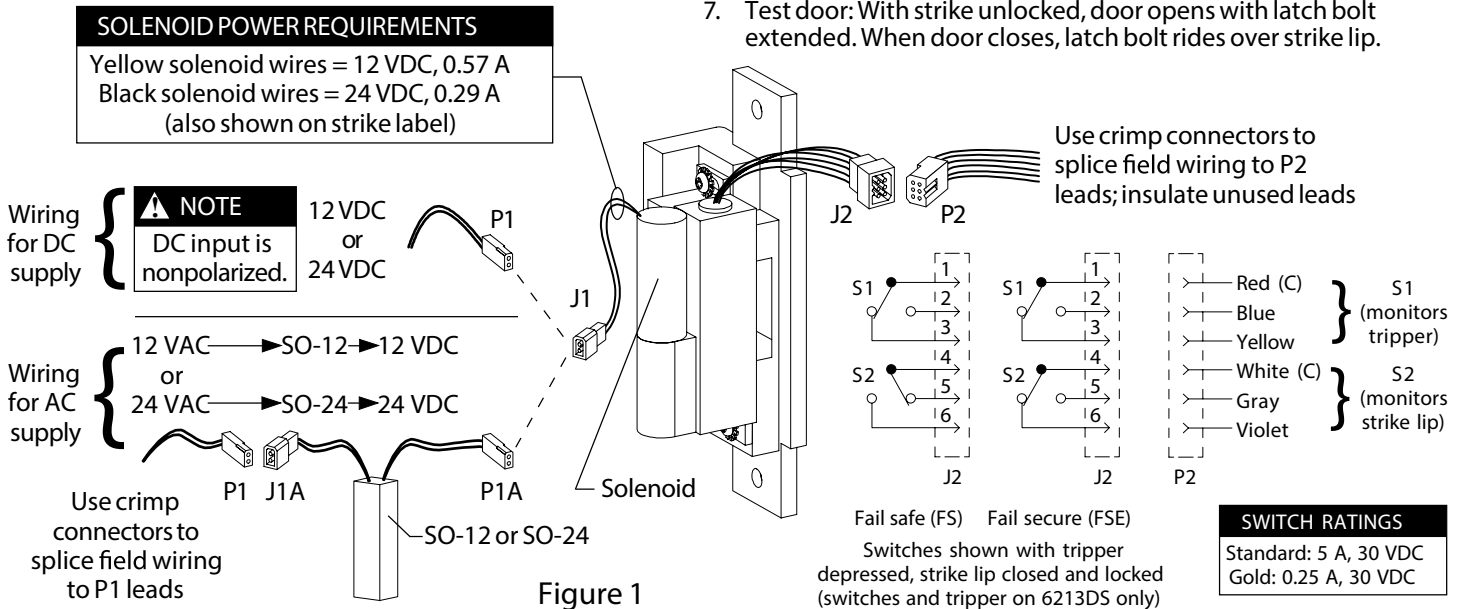

Figure 1
3. Wire strike (Figure 1). (Switches on 6213DS only.)
4. Test strike: Apply solenoid power. Fail secure (FSE) lip unlocks. Fail safe (FS) lip locks. Figure 1 shows status of switches.